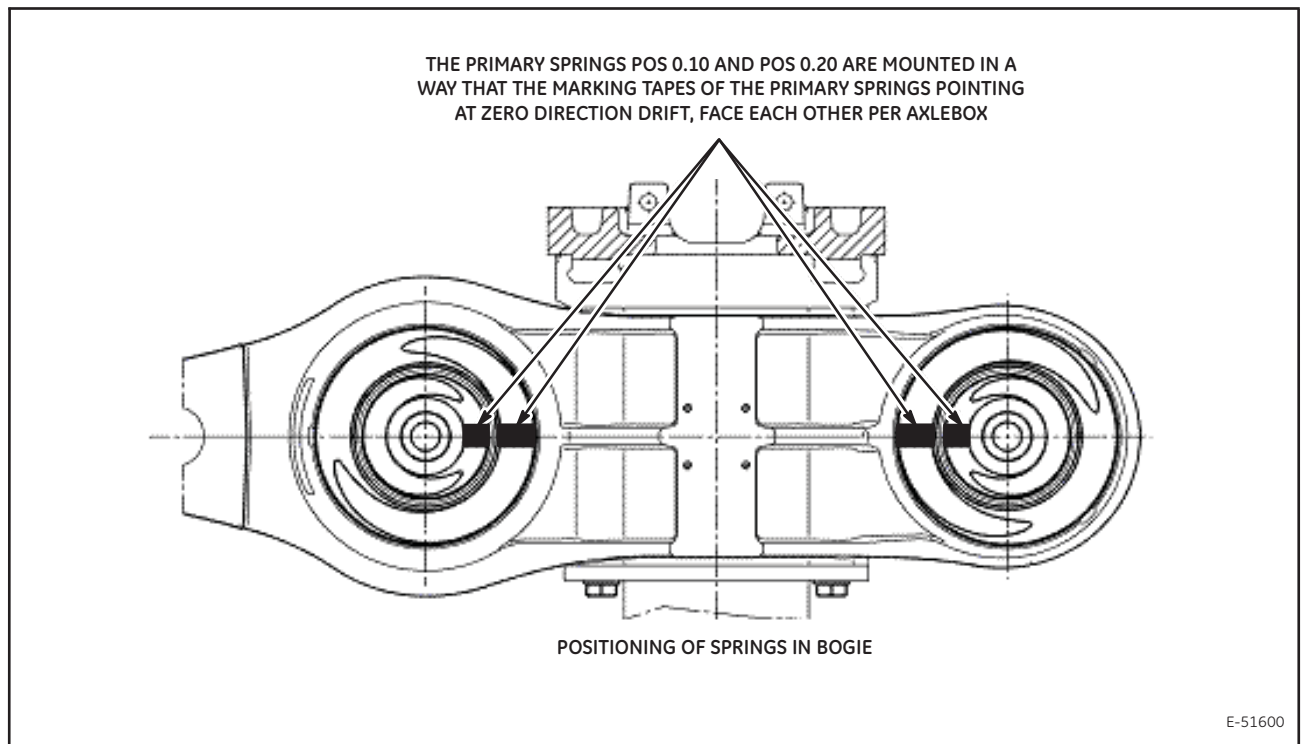
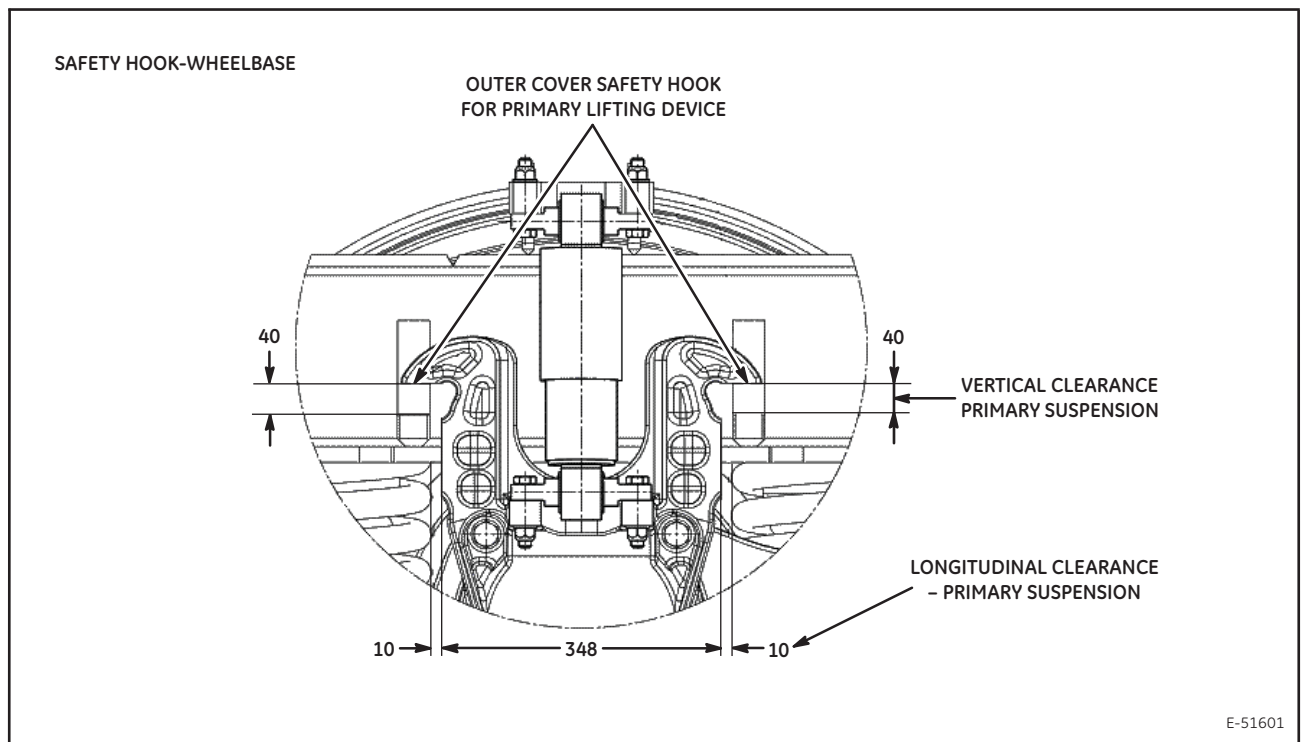

Figure 12. Positioning of Springs In The Truck
Figure 13. Safety Hook-Wheelbase
Figure 12 and Figure 13 display Safety Hooks and Lifting Devices.
Safety hooks (or wheelbase, Figure 12) for wheelbase are located on each axlebox at the outer cover.
On the truck there are (Figure 13):
1. Visually check the clearance of the safety hooks in Figure 12 and Figure 13.